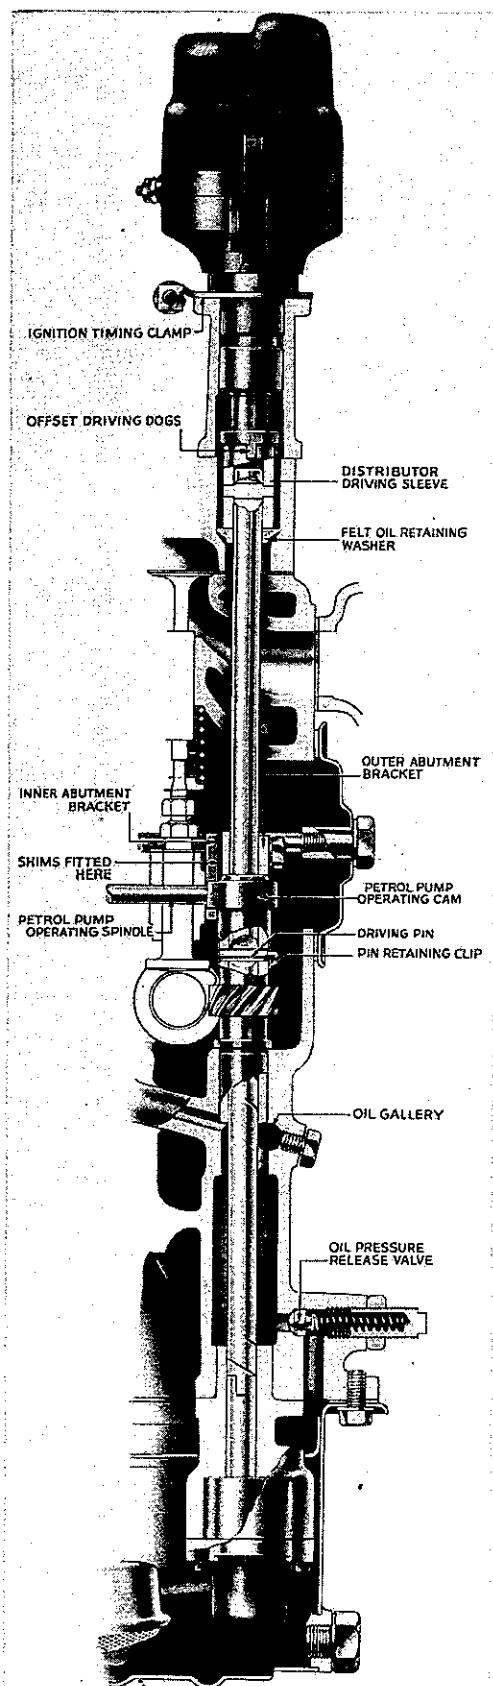

Fig. 26. Distributor and oil pump driving shaft.
#### Distributor and oil Pump Drive (Fig. 26).
6. Remove the driving pin retaining clip and withdraw the pin (See Fig. 26).